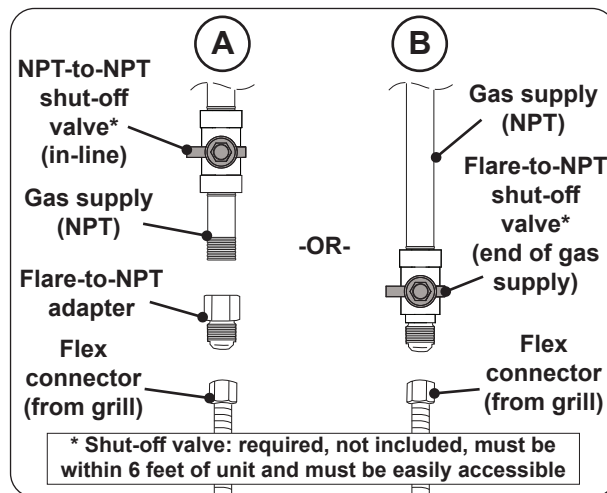

Fig. 23-2 Connecting to a gas line
- Install the supplied flare-to-NPT adapter to the gas supply (NPT) using a pipe joint compound resistant to all gasses (see Fig. 23-2, A). Tighten securely.
- Connect the flex connector to the adapter (see Fig. 23-2, A). Tighten securely.
- Connect the flex connector to the shut-off valve (flare) (see Fig. 23-2, B). Tighten securely.